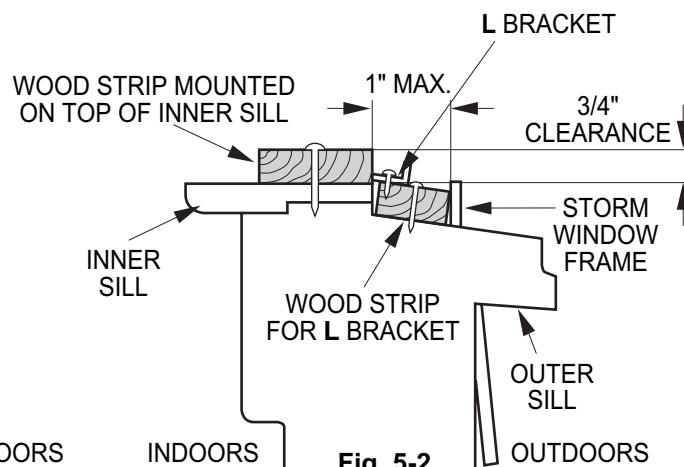

Fig. 5-2
2. If storm window presents interference, fasten a 2" wide wood strip (OUTER SILL) to the inner window sill across the full width of the sill. The wood strip should be thick enough to raise the height of the window sill so that the unit can be installed without interference by the storm window frame. See Fig. 5-2. Top of wood strip should be approximately 3/4" higher than the storm window frame (STORM WINDOW FRAME) or wood strip (OUTDOORS) to help condensation to drain properly to the outside.
3. Install a second wood strip (approximately 6" long by 1 1/2" wide and same thickness as first strip) in the center of the outer sill flush against the back off the inner sill. This will raise the L bracket as shown Fig. 5-2.